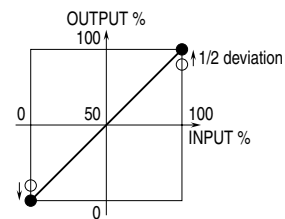

Fig. 10
6) With 100% input, adjust the other half of the deviation with Span adjustment in order to get 100% output. See Figure 10.
7) Input 0%, 50% and 100% signals and check the output according to the respective input value. If the output value is shifted, repeat the above procedure (3) - (6).